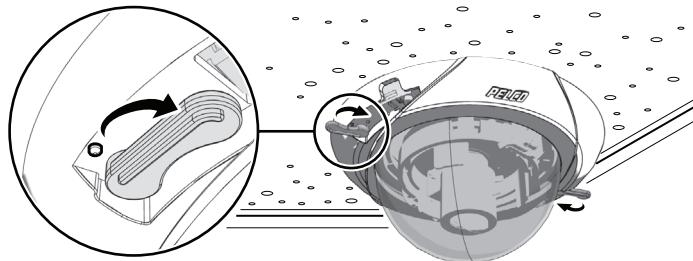

Figure 12. Locking the Lower Dome
4. Snap the lower dome into place, and then move the lower dome latches towards the bubble until you hear a click (refer to Figure 12).